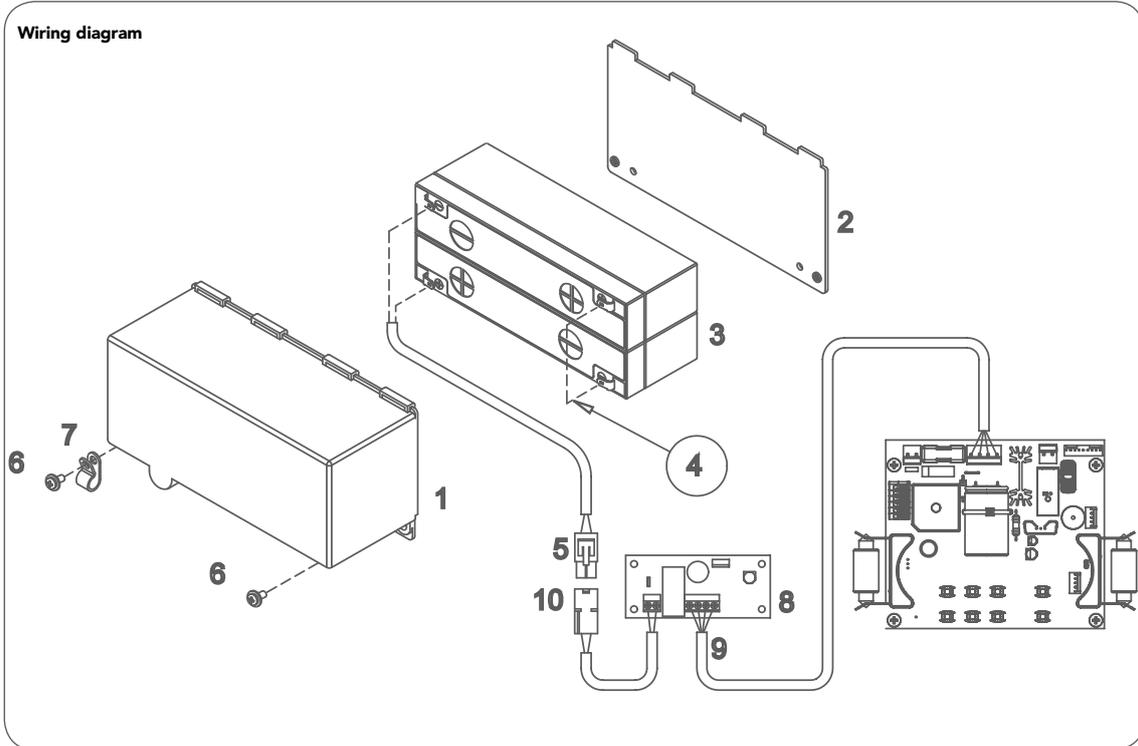

fig 04
- g. Connect battery harnesses 5 and 10 together (Fig 04).